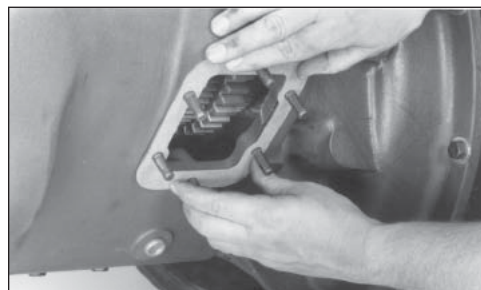

Fig. 8
6. Place the correct number of gaskets over studs (**Fig. 8**). Do not use Permatex between gaskets because you may want to add or subtract gaskets to obtain proper backlash.